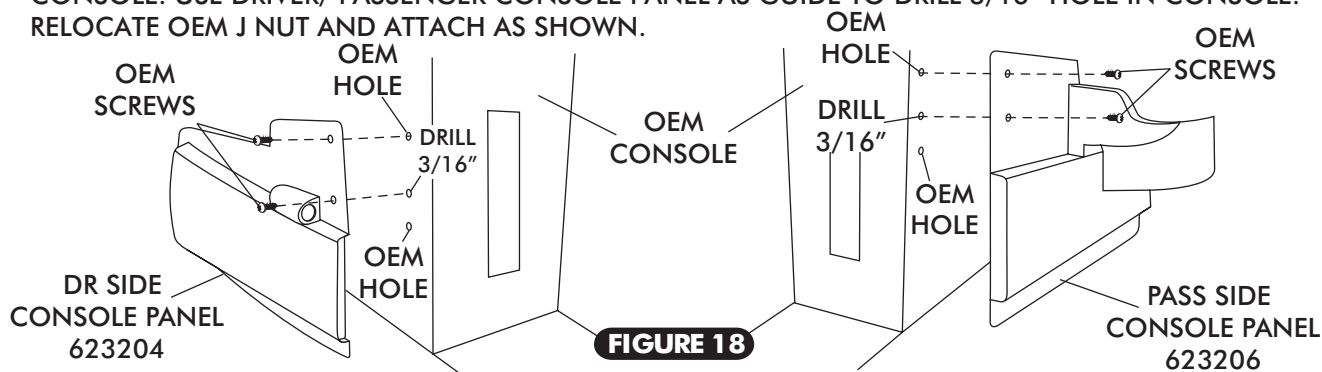

FIGURE 18
- ☐ INSTALL DRIVER AND PASSENGER SIDE CONSOLE PANELS USING OEM SCREWS AS SHOWN BELOW IN FIGURE 18. **NOTE:** LOWER MOUNTING HOLE MUST BE DRILLED IN OEM CONSOLE TO MOUNT NEW CONSOLE. USE DRIVER/ PASSENGER CONSOLE PANEL AS GUIDE TO DRILL 3/16" HOLE IN CONSOLE. RELOCATE OEM J NUT AND ATTACH AS SHOWN.